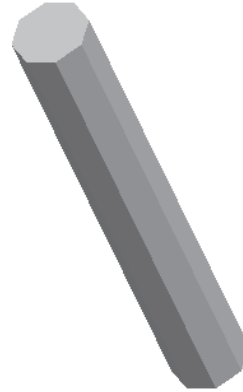

Figure 7-99 Octagonal sketch after extruding
4. Exit the sketcher environment and extrude the sketch to a depth of 1500. The base feature is shown in Figure 7-99.